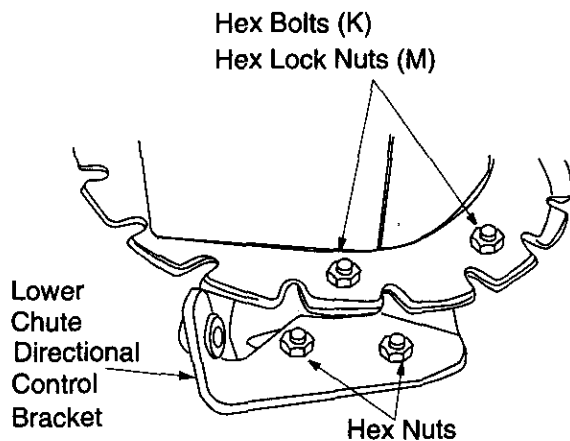

Figure 12
1. Loosen the two hex nuts which secure the lower chute directional control support bracket (see Figure 12) to the snow thrower housing.